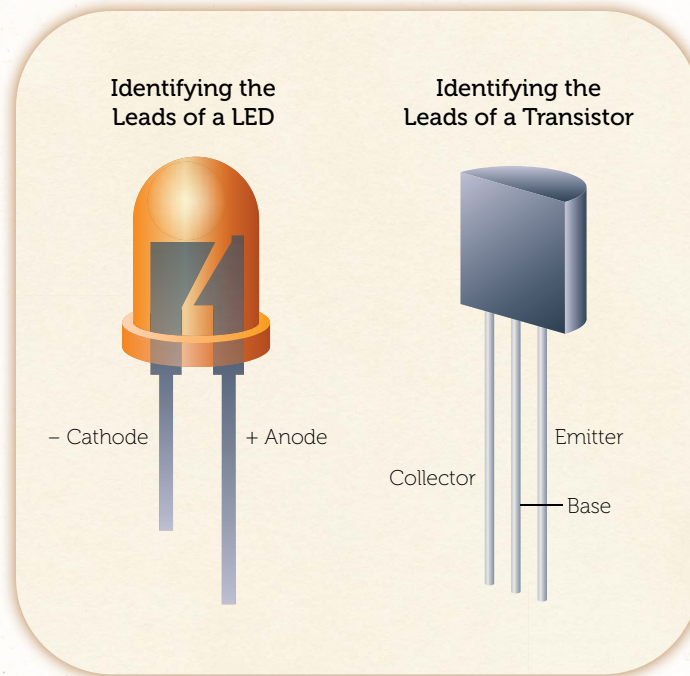

Figure 4.2: Learning to identify leads
1. Refer to Figure 4.2. Examine your LED and identify the positive lead (the longer one).